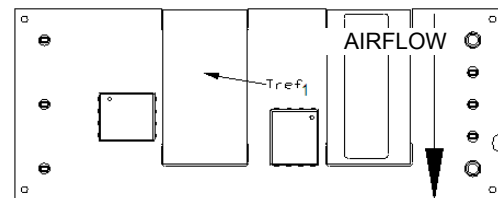
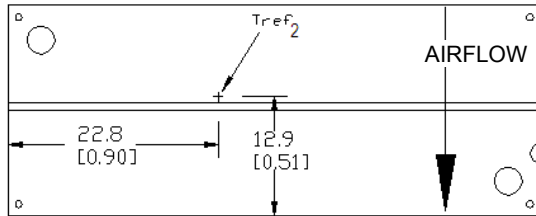

Figure 12. T_{ref} Temperature Measurement Location for Open Frame Module.
Figure 13. T_{ref} Temperature Measurement Location for Module with Heatplate.
To provide protection under certain fault conditions, the unit is equipped with a thermal shutdown circuit. The unit will shutdown if the thermal reference point, T_{ref1} exceeds 135°C (Figure 12, typical), or T_{ref2} exceeds 120°C (Figure 13, typical), but the thermal shutdown is not intended as a guarantee that the unit will survive temperatures beyond its rating. The module will automatically restart upon cool-down to a safe temperature.
The thermal reference point, T_{ref1}, used in the specifications for open frame modules is shown in Figure 12. For reliable operation this temperature should not exceed 130°C.
The thermal reference point, T_{ref2} , used in the specifications for modules with heatplate is shown in Figure 13. For reliable operation this temperature should not exceed 104°C.